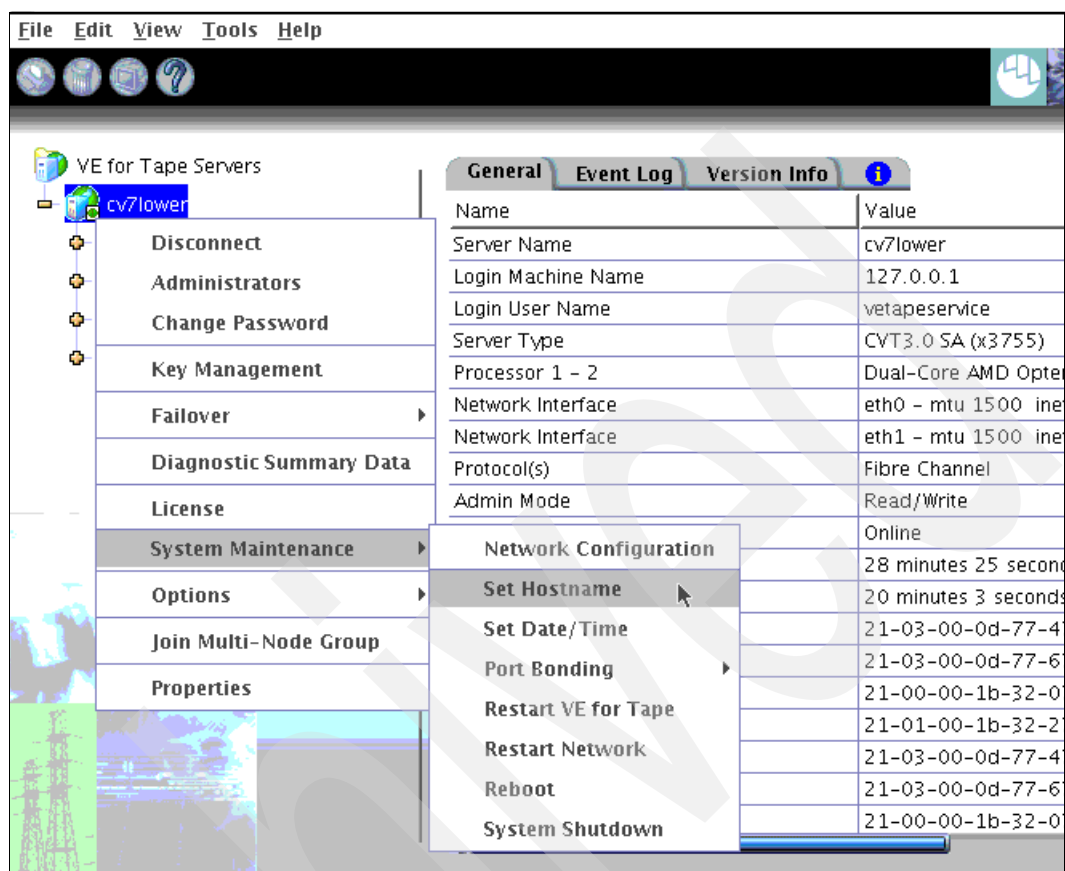

Figure 6-4 Set Hostname menu
3. Right-click the server and then click **System Maintenance** → **Set Hostname**, as shown in Figure 6-4.